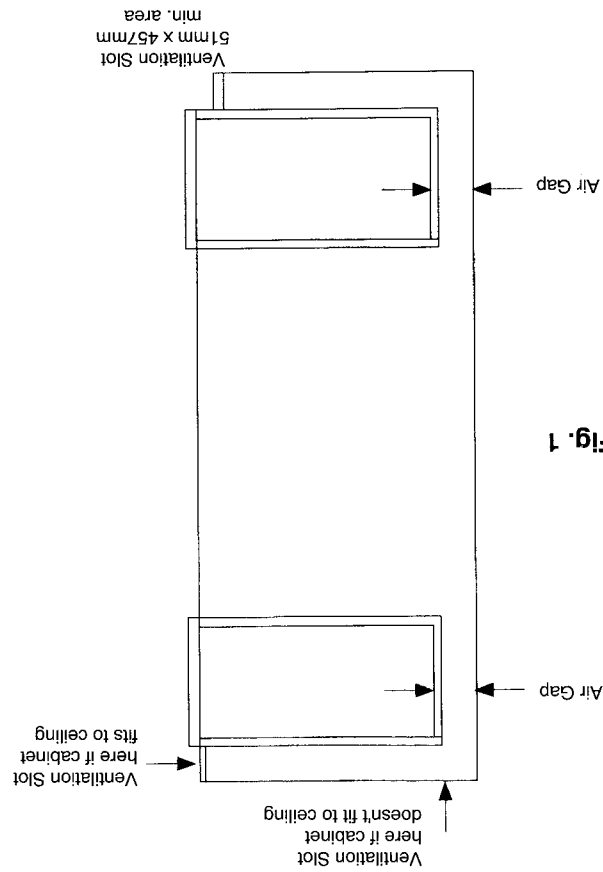

Fig. 1
- b. An air gap of 50 mm minimum must be provided at the rear of any top or bottom cupboards or shelves. (See Fig. 1 page 6.)
cupboards above the oven unit to ceiling height it is essential that the warmed air is exhausted through the front of the cabinet Fig. 1. (See page 6.)